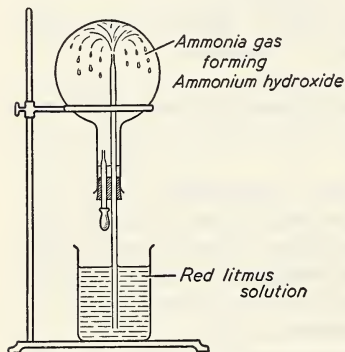

Fig. 76. An ammonia fountain.
2. Select a sturdy, round-bottomed flask and fill it with ammonia gas by the downward displacement of air. When the flask is filled, quickly insert the stopper into the inverted mouth, and support the flask in a retort ring as shown in Figure 76. Force a few drops of water out of the medicine dropper